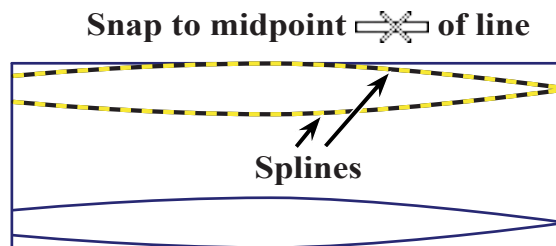

Fig. 7
Step 2. Click **both splines** and click **End Selection**  (ENTER) **Fig. 7**.